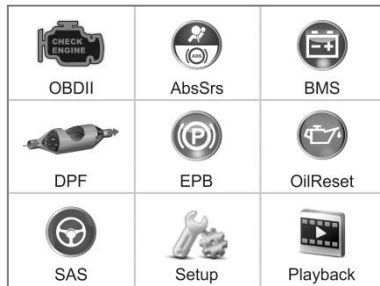

Figure 3.1
- 4) Power up the scan tool, and wait for the **Main Screen** to appear (Figure 3.1).
- 1) Use the **LEFT/RIGHT** scroll button to select **Playback** from **Main Screen** (*Figure 3.1*), and press the **OK** button. Wait for the **Review data** screen to appear. The recorded files are identified by different diagnostic functions, such as OBD II diagnostics, OilReset, ABS/SRS, EPB, SAS and DPF and will be saved in corresponding folders.